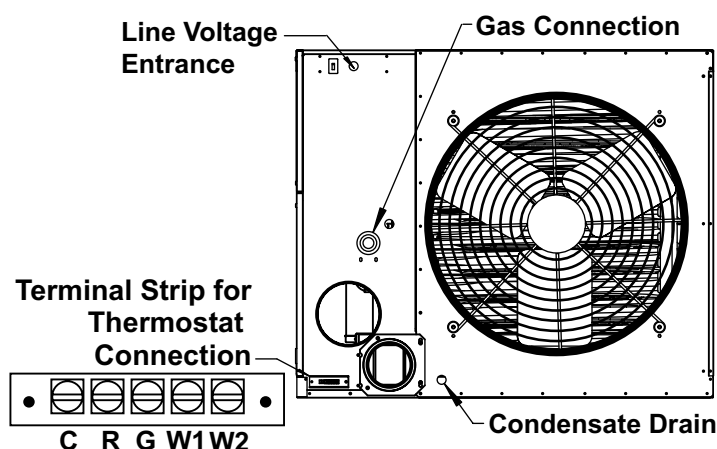

Figure 23. Supply Wiring Entrance and Control Connection Terminal Strip
- The supply wiring enters at the rear of the heater, as shown in Figure 23. Supply wiring connects to leads located inside a sealed electrical box. To maintain the sealing feature of the electrical box, always replace the cover plate.
- The terminal strip for the 24V thermostat connections is located on the outside of the cabinet at the back of the heater, as shown in Figure 23. Wires from the terminal strip are factory-wired to the circuit board.
- Make thermostat connections at the terminal strip on the back of the heater (see Figure 23). The strip has five terminals: C, R, G, W1, and W2. Refer to the wiring diagram provided with the heater.